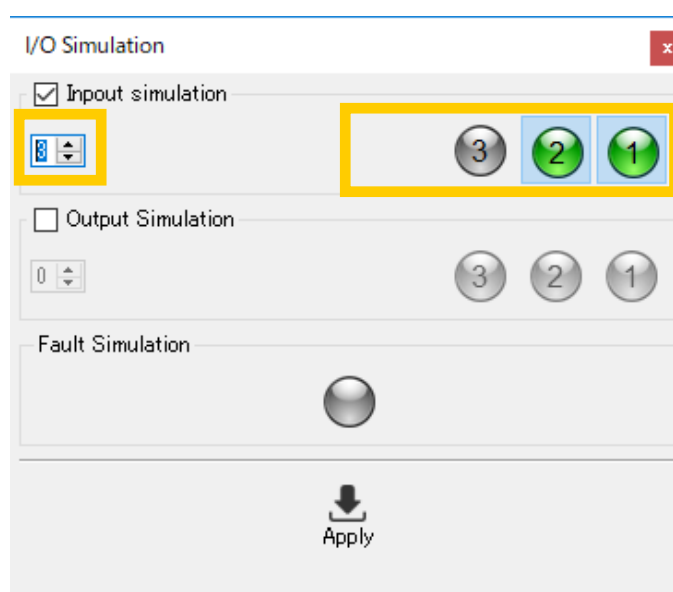

Figure 4.6-3 Input simulation numerical input and lamps
1. This shows when a check mark is placed in the input simulation checkbox or the output simulation for which to perform the test. When check mark is placed, as illustrated in figure 4.6-3, the numerical input checkbox and the buttons will be active.